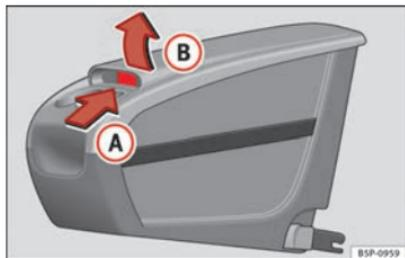

Fig. 105 Mobile storage compartment. Opening
- Lift the cover (B), in area (A) ⇒ Fig. 105.